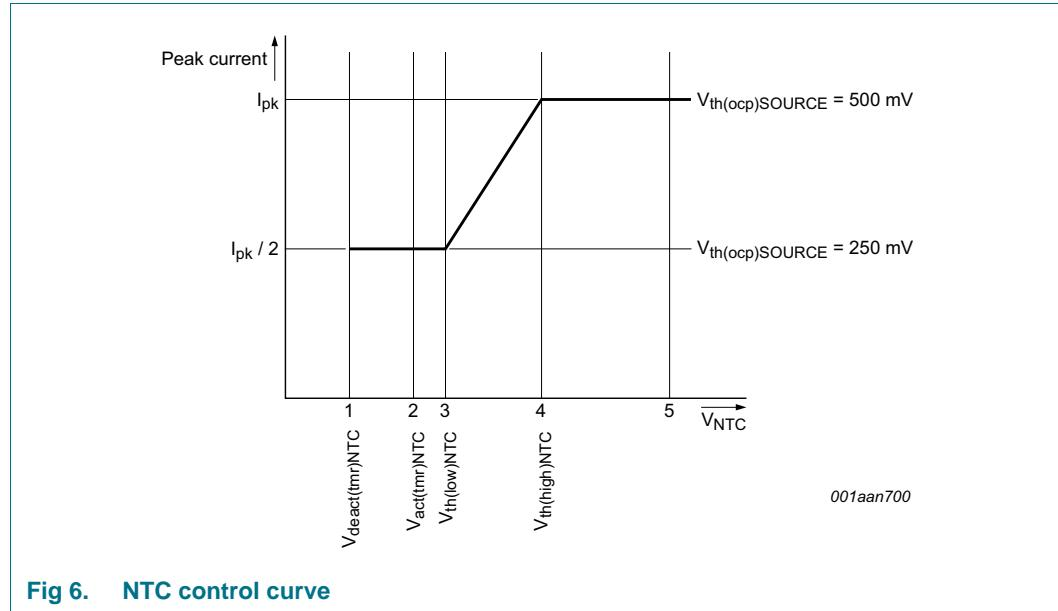

Fig 6. NTC control curve
The NTC pin can be used as a control method for LED thermal protection. Alternatively, the pin can be used as an input to disable/enable light output using a digital signal (PWM regulation). The pin has an internal current source that generates the current of  $I_{\text{offset}(\text{NTC})}$ . An NTC resistor to monitor the LED temperature can be connected directly to the NTC pin. Depending on the resistance value and the corresponding voltage on the NTC pin, the converter reacts as shown in Figure 6.
When the voltage on the NTC pin exceeds  $V_{th(\text{high})\text{NTC}}$  (see Figure 6 \(4\)), the converter delivers nominal output current. When the voltage is lower than this level, the peak current is gradually reduced until  $V_{th(\text{low})\text{NTC}}$  is reached (see Figure 6 \(3\)). The peak current is now half the peak current of nominal operation. When  $V_{act(\text{tmr})\text{NTC}}$  is passed (see Figure 6 \(2\)), a timer starts to run to distinguish between the following situations:
- If the low-level  $V_{deact(\text{tmr})\text{NTC}}$  is not reached within time  $t_{to(\text{deact})\text{NTC}}$  (see Figure 6 \(1\)), LED overtemperature is detected. The IC stops switching and attempts to restart from the HV pin voltage. The converter restarts from an NTC protection shutdown when the voltage on the NTC pin exceeds  $V_{th(\text{high})\text{NTC}}$  (see Figure 6 \(4\)). It is assumed that the reduction in peak current does not result in a lower NTC temperature and LED OTP is activated.
- If the low-level  $V_{deact(\text{tmr})\text{NTC}}$  is reached within the time  $t_{to(\text{deact})\text{NTC}}$  (see Figure 6 \(1\)) it is assumed that the pin is pulled down externally. The restart function is not triggered. Instead, the output current is reduced to zero. PWM regulation and consequently output LED current regulation can be implemented this way. The output current rises again when the voltage exceeds  $V_{th(\text{low})\text{NTC}}$ .
The NTC pin can be used to make a soft start function. During switch-on, the level on the NTC pin is low. By connecting a capacitor (in parallel with the NTC resistor), a time constant can be defined. The time constant causes the level on the NTC pin to increase slowly. When passing level  $V_{th(\text{low})\text{NTC}}$  (see Figure 6 \(3\)), the converter starts with half of the maximum current. The output current slowly increases to maximum when  $V_{th(\text{high})\text{NTC}}$  (see Figure 6 \(4\)) is reached.